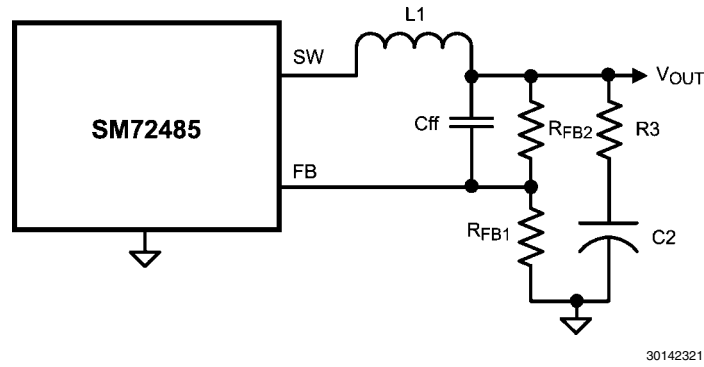

FIGURE 7. Reduced Ripple Configuration
a) Reduced ripple configuration: In Figure 7, C_{ff} is added across R_{FB2} to AC-couple the ripple at V_{OUT} directly to the FB pin. This allows the ripple at V_{OUT} to be reduced to a minimum of 25 mVp-p by reducing $R3$, since the ripple at V_{OUT} is not attenuated by the feedback resistors. The minimum value for C_{ff} is determined from: